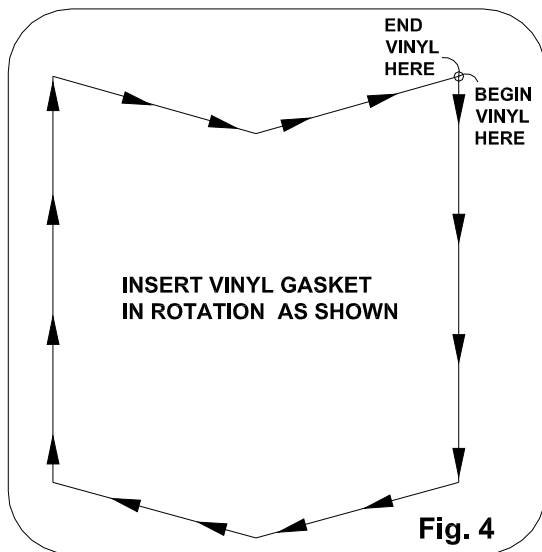

Fig. 4
7. Install glazing vinyl. Cut a piece of glazing vinyl longer than required to do the entire opening. Press in glazing vinyl using a vinyl roller starting at one of the top corners of the glass. Run glazing vinyl around the entire perimeter of the glass. Back cut vinyl at corners. Do not stretch vinyl while installing. (See Fig. 4)